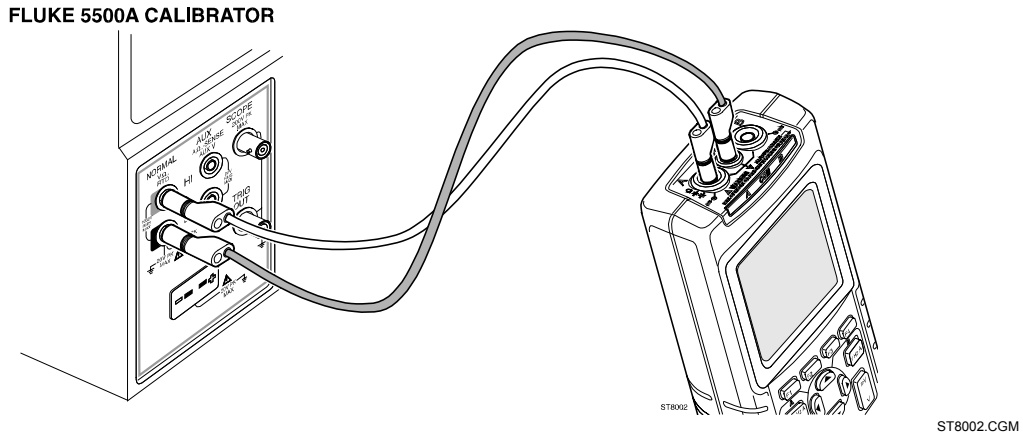

Figure 5-9. Capacitance Gain Calibration Input Connections
2. Connect the test tool to the 5500A as shown in Figure 5-9.
2. Connect the test tool to the 5500A as shown in Figure 5-9 (Section 5.6.9).